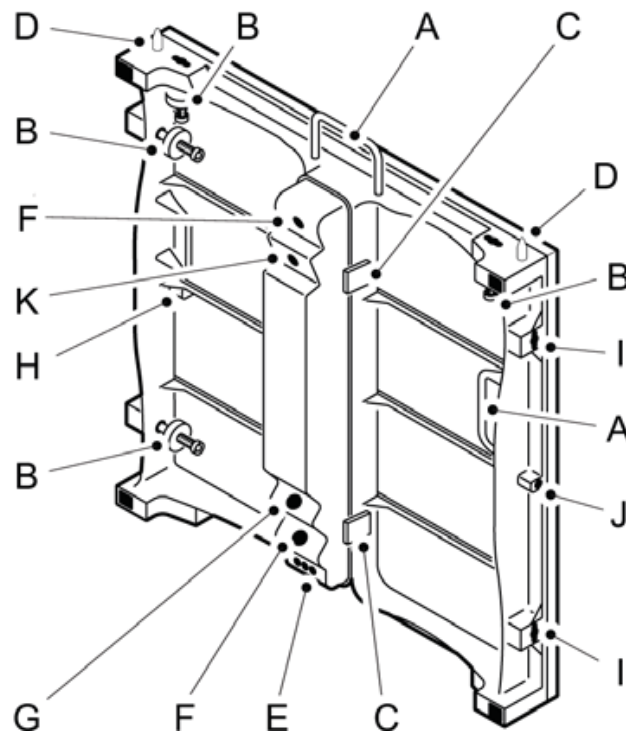
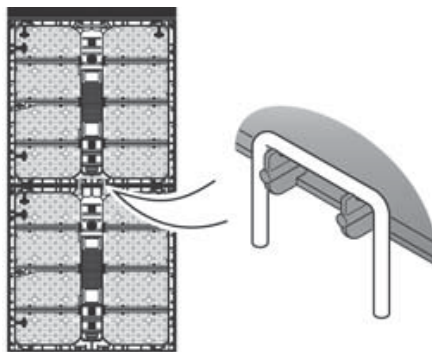
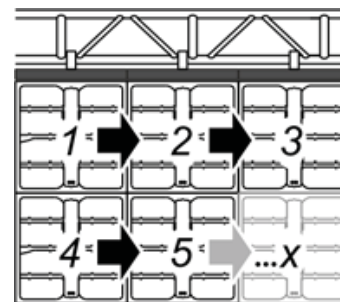

Figure 1-1.
Figure 1-3.
Figure 1-4.
When assembling an LED screen installation, mount the panels on the hanging bar one by one. Mount one row of panels at a time starting from the top and working downwards. See Fig 1-4. When mounting a second row of LED panels (see step 12 below), use the handle on top of the individual LED panels for additional support. Also, this leaves both hands free for fastening the LED panels. See Fig 1-3.
- 5 Lift an LED panel (2) into position besides the previous panel (1). See Fig 1-4. Use guide pins (D and H) to make sure the panel is in the right position. See Fig 1-1 on page 8.
It is also possible to take out an entire LED panel from an installation. Always cut off power before removing panels. To take out an entire panel, first unscrew all appertaining guide pins (remember to keep the guide pins for reassembly). Next, unlock all appertaining thumbscrew locking mechanisms. Lastly, carefully manoeuvre the panel out of the installation. See Fig 1-1 on page 8 for parts identification.